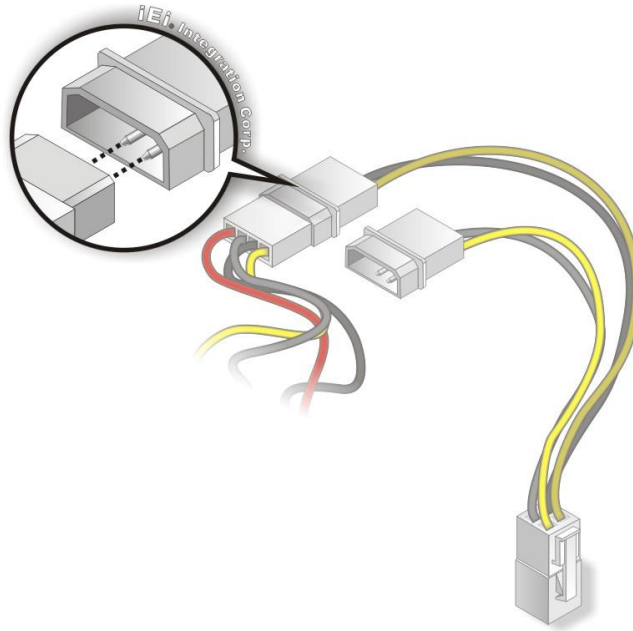

Figure 4-18: Connect Power Cable to Power Supply
Step 3: Connect power cable to power supply. Connect one of the 4-pin (1x4) Molex type power cable connectors to an AT power supply. See **Figure 4-18**